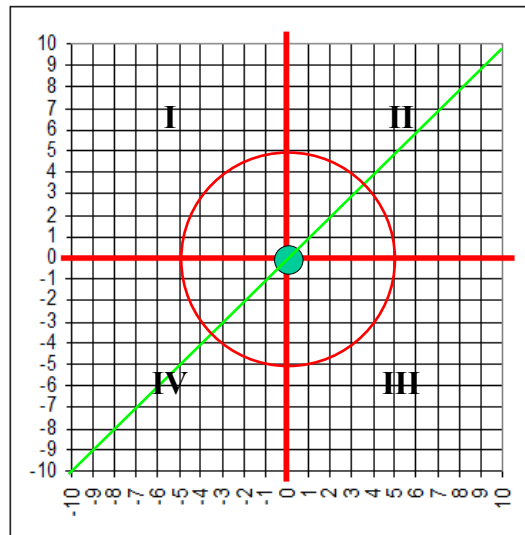
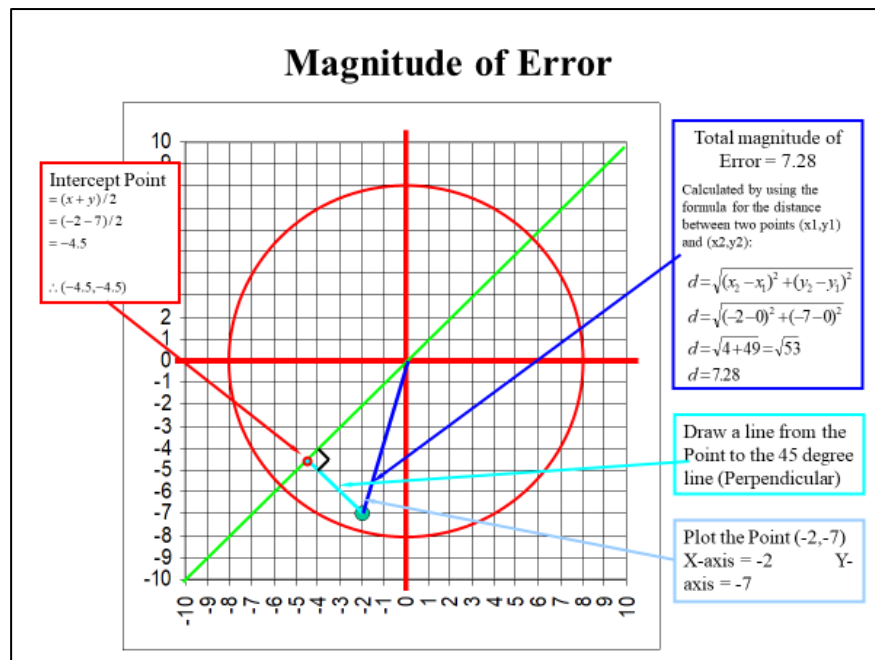

Figure 1. Graph Components and Quadrants.
Figure 2. Calculating the Magnitude of Error for Paired Data.
The graphical presentation includes the following components (See Fig. 1):
- The error of each pair of measurement results is mathematically calculated with total magnitude of error that is then separated into systematic and random components using equations for a right triangle formed between the center point (mean or median), the paired set of data, and the intercept of the paired data at a 90-degree angle to the diagonal line. See Fig. 1 and Fig. 2.